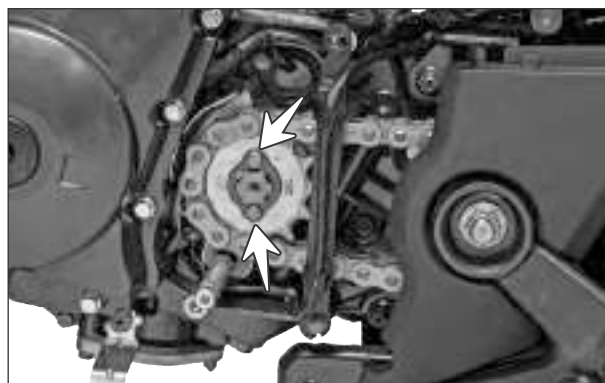

Fig. 3.103
- ! Remove hexagonal screw (M5x10 - 2 nos.) from the lock plate engine sprocket mounting. (Fig. 3.103)